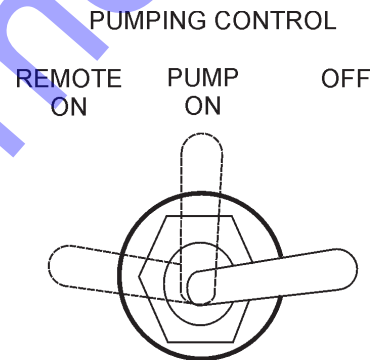

Figure 20. Pumping Control Switch (OFF)
4. Place the **pumping control switch** (Figure 20) in the **OFF** position.
- Place the **pumping control switch** in the **OFF** position (Figure 20).